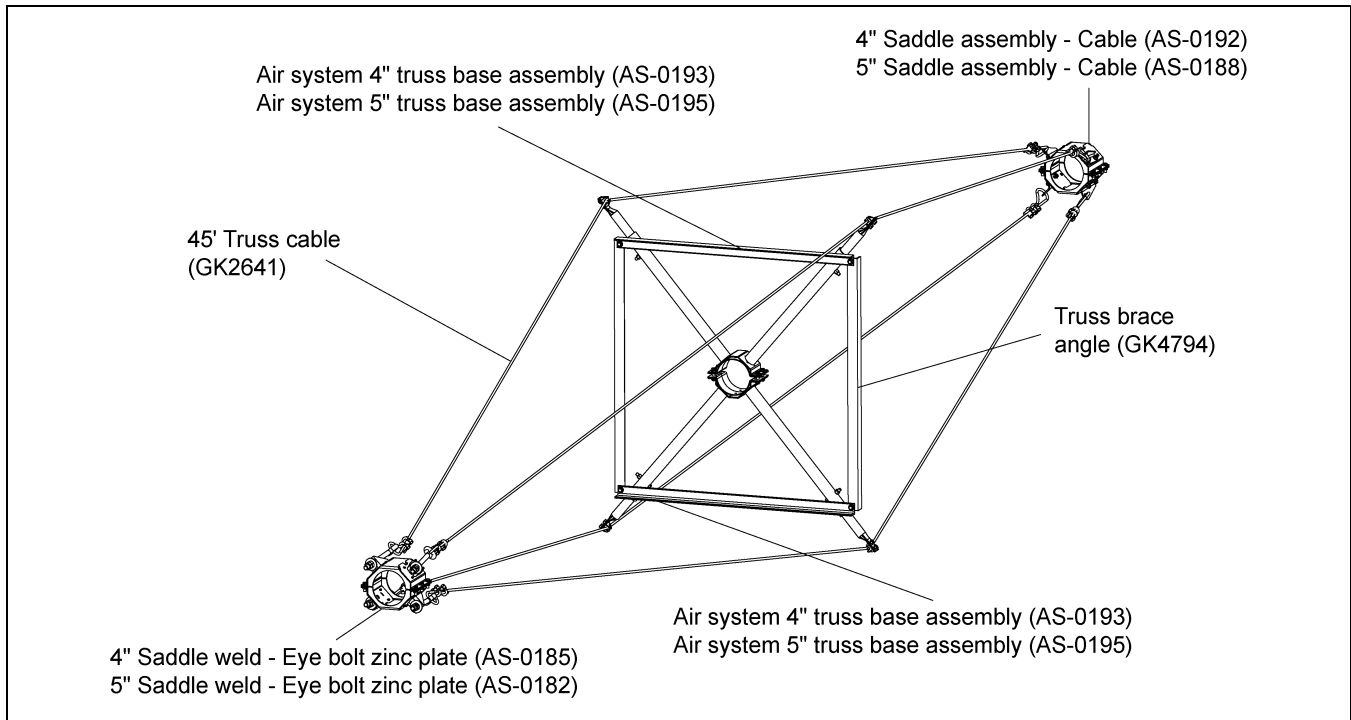
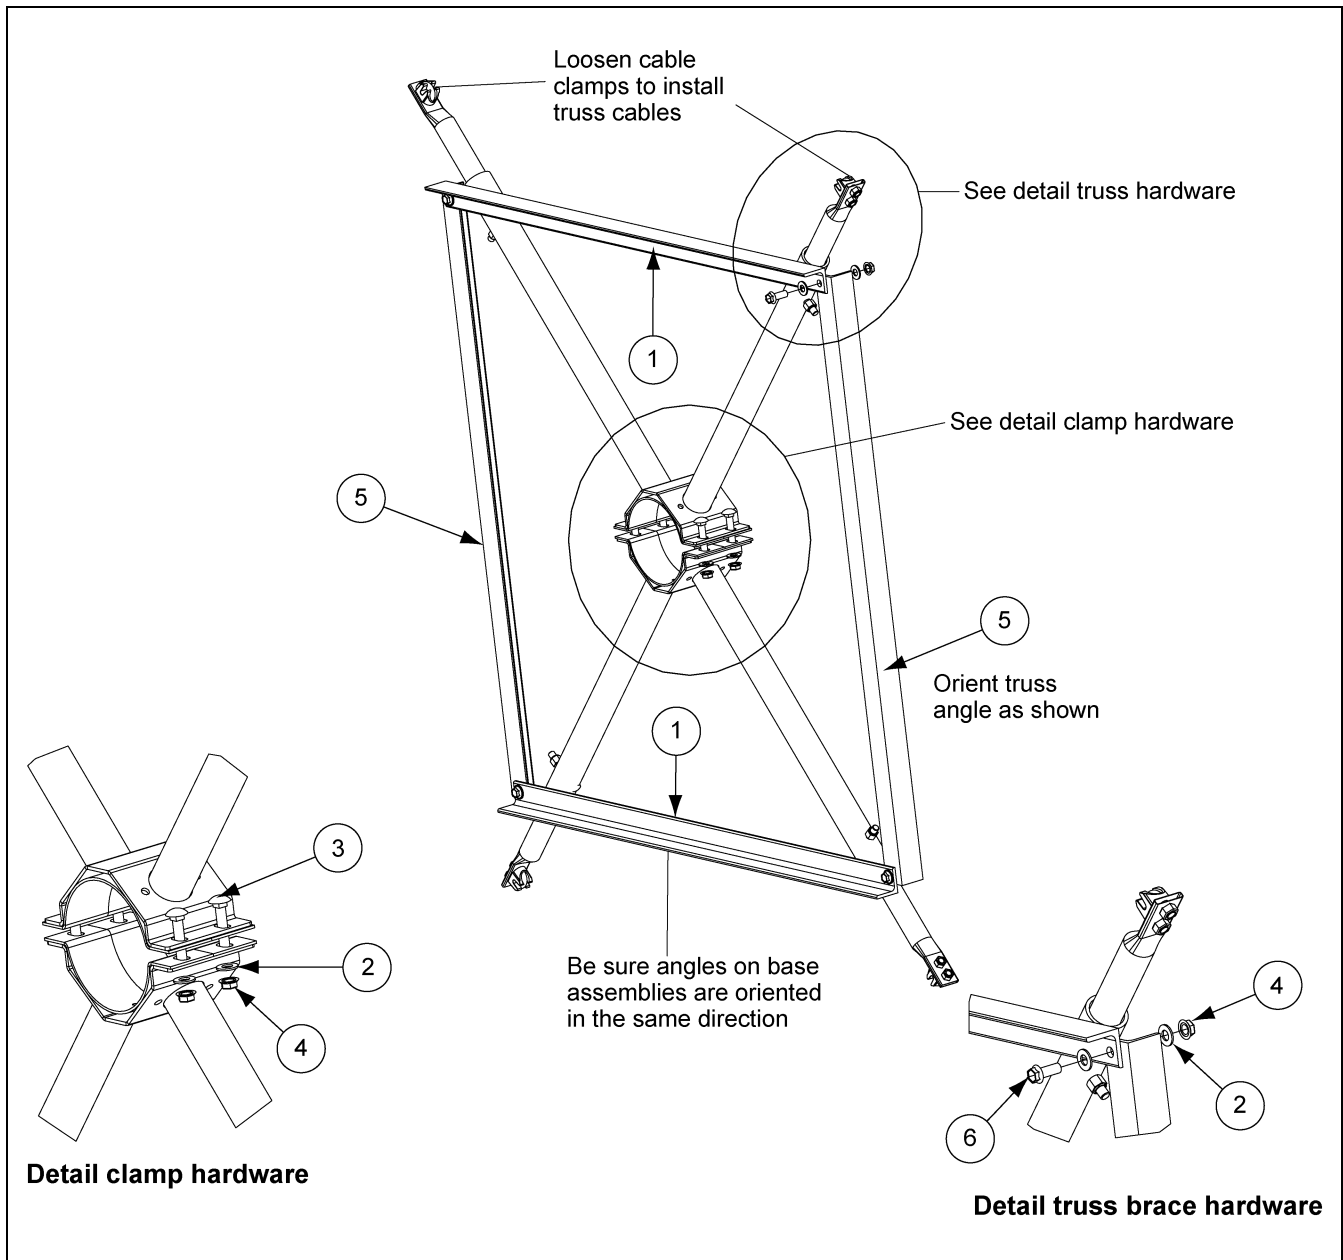
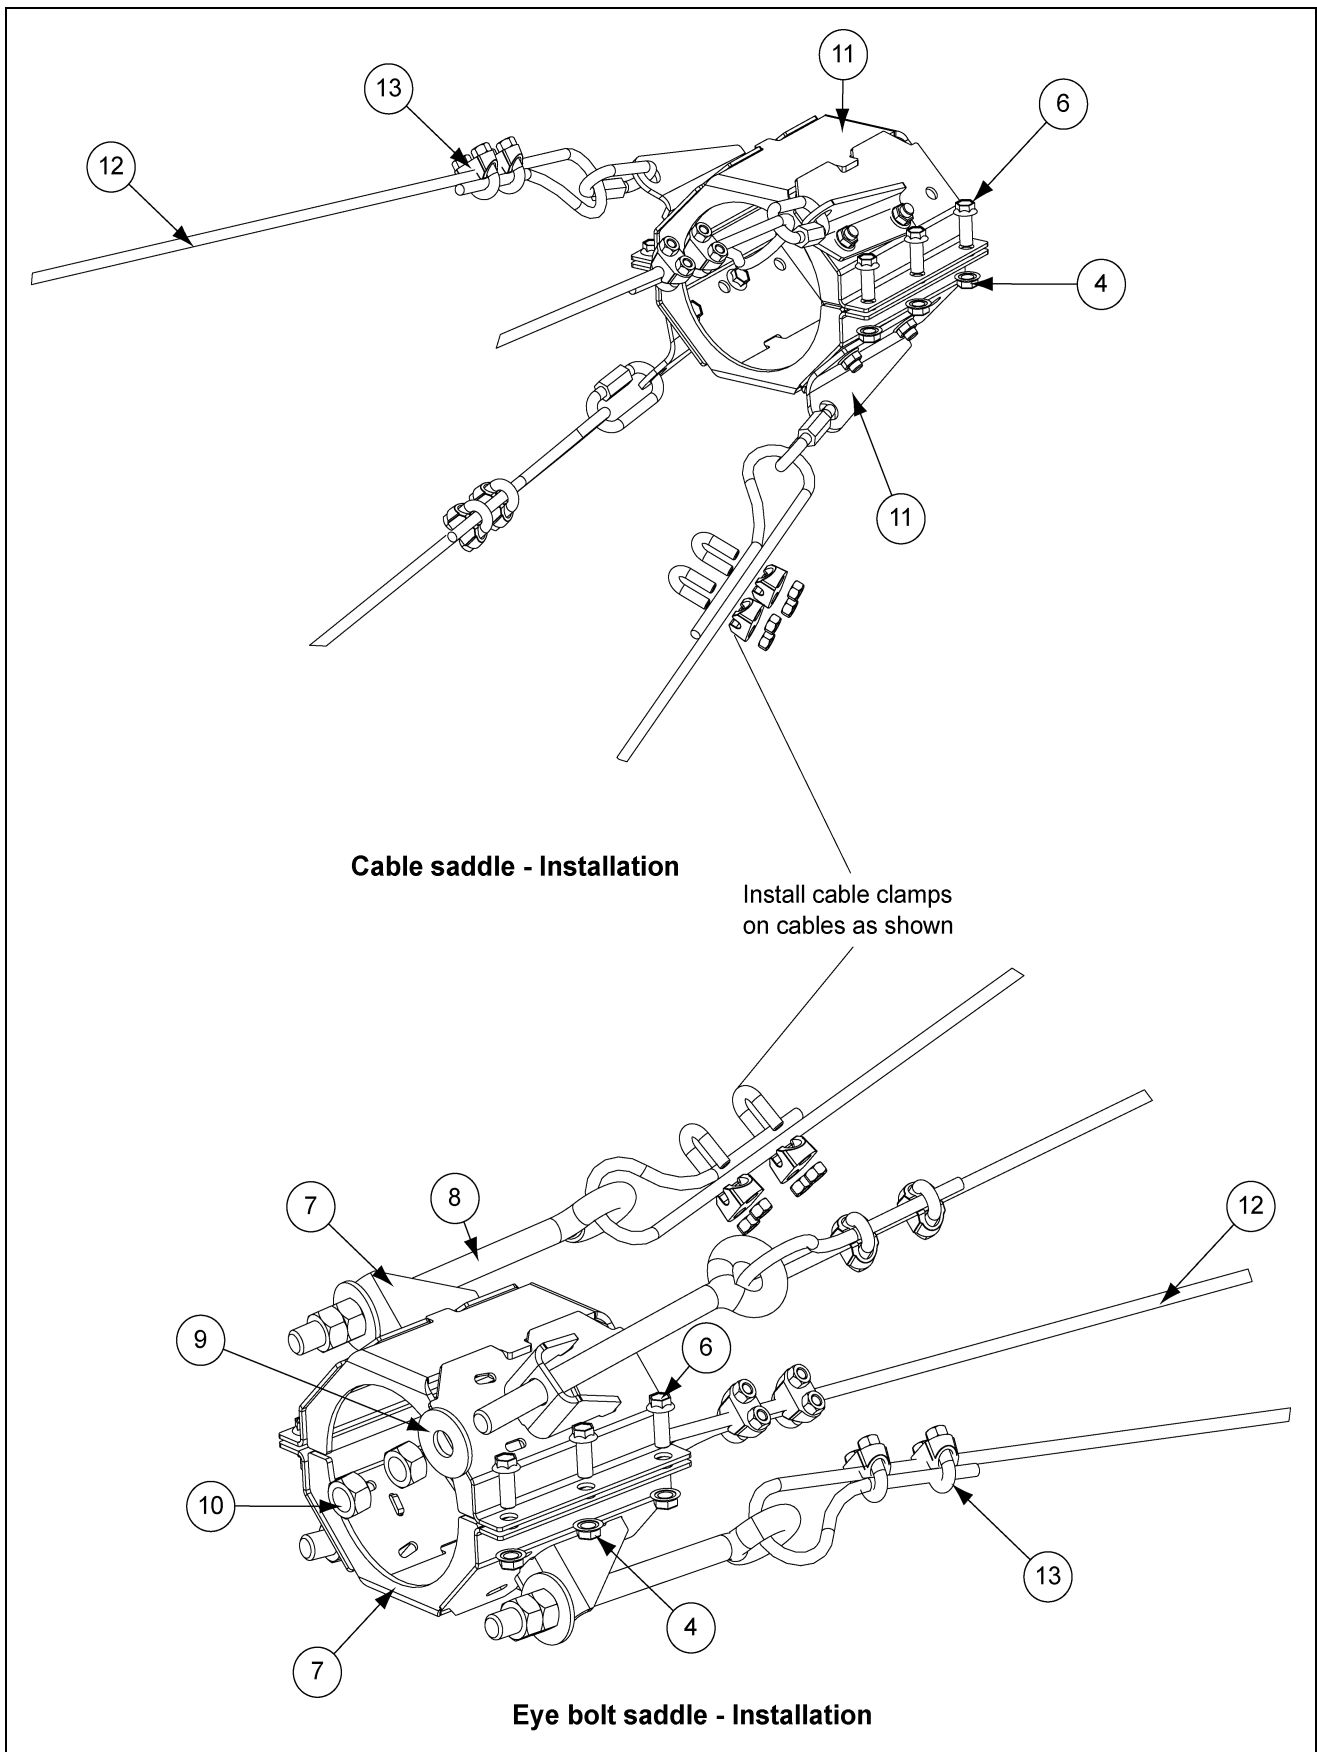

Figure 1
Figure 2 Installation of Tube Base Assemblies
Figure 3
- Step 1:** Locate the truss base assemblies (Ref #1) in the center of the tube that is to be trussed as shown in Figure 1. Be sure the angles on the base assemblies are oriented in the same direction as noted. (See Figure 2 on Page 2.) Fasten the truss bases to the tube with hardware Ref #2, #3 and #4. (See Figure 2 on Page 2.)
- Step 2:** Place truss braces (Ref #5) between the truss base assemblies and orient as shown. Attach using hardware Ref #2, #4 and #6. (See Figure 2 on Page 2.)
- Step 3:** Position the cable saddle assemblies (Ref #11) and the eye bolt saddle weldments (Ref #7) on opposite ends of the tube (See Figure 1) as close to the ends as possible but without interfering with the compression couplers. Be sure to orient the saddle assemblies as shown in Figure 3 on Page 3 and install with hardware Ref #4 and #6.
- Step 4:** Install the eye bolts (Ref #8) through the anchors on the eye bolt saddle weldments as shown in Figure 3 on Page 3. Make sure the eye is pointing toward the center of the tube. Fasten the eye bolts using hardware Ref #9 and #10. Leave hardware loose for later cable adjustment.
- Step 5:** Run cables through the chain connectors on the cable saddle assemblies and fasten with two (2) 5/16" cable clamps (Ref #13) as shown in Figure 3 on Page 3.
Step 7: Loop cables through eye bolts and fasten with two (2) 5/16" cable clamps (Ref #13) as shown in Figure 3 on Page 3.